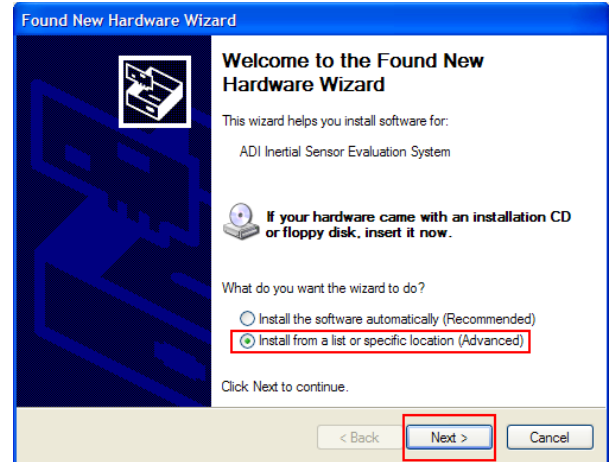

Figure 2. Found New Hardware Prompt
2. If prompted to install drivers, click **Install from a list or specific location (Advanced)** and click **Next>** (see Figure 2).